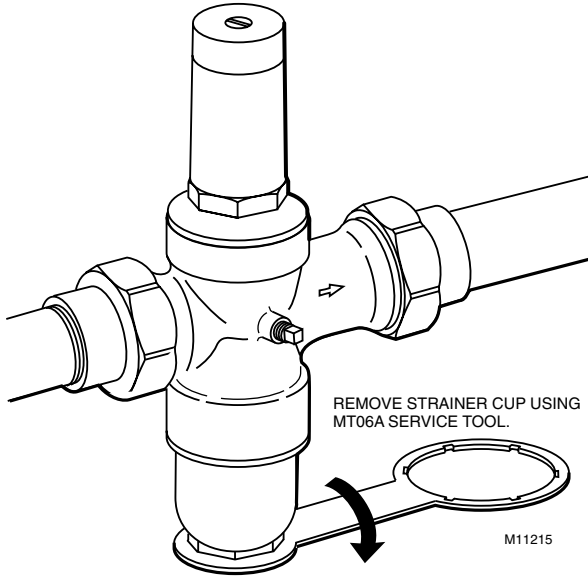

Fig. 5. Removing strainer cup.
- 5 Remove the strainer cup (Fig. 5) using the MT06A1009 or MT06A1017 Service Tool.
- 2 Remove the strainer cup (Fig. 5) using the MT06A1009 or MT06A1017 Service Tool.